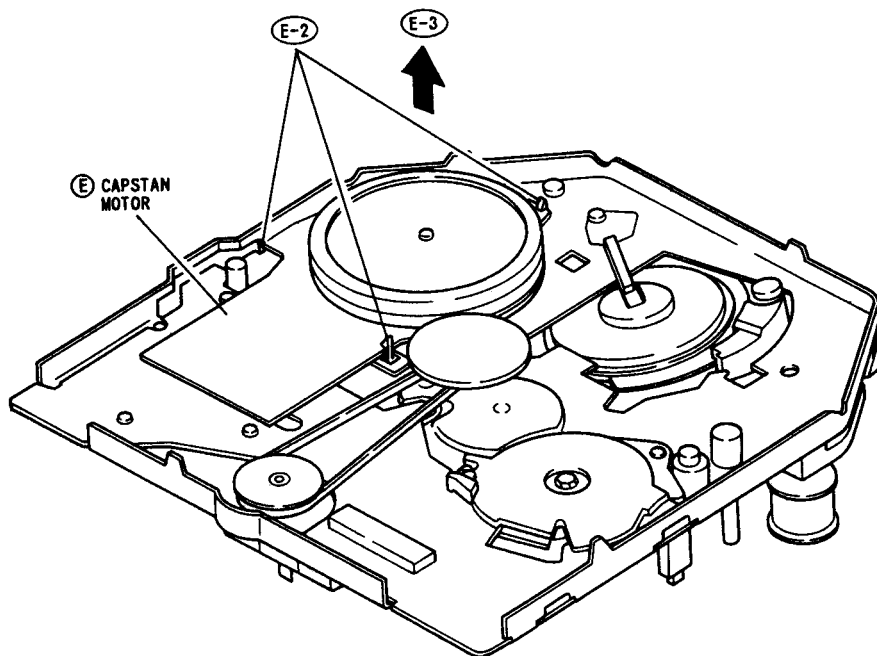

Fig. 4-1
E. Capstan Motor (Figs. 4-1, 4-2)
2) Release three (3) tabs. (See Fig. 4-1)